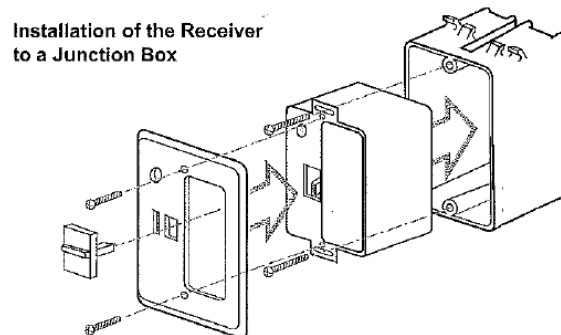

Figure 3
- 1) Secure the Remote Receiver to the wall receptacle as shown in Figure 3.
- 2) Secure faceplate to the Remote Receiver using 2 screws provided as shown in Figure 3.